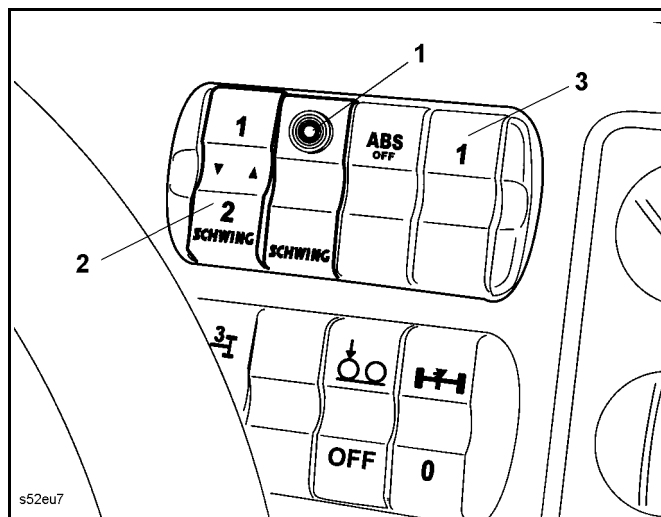
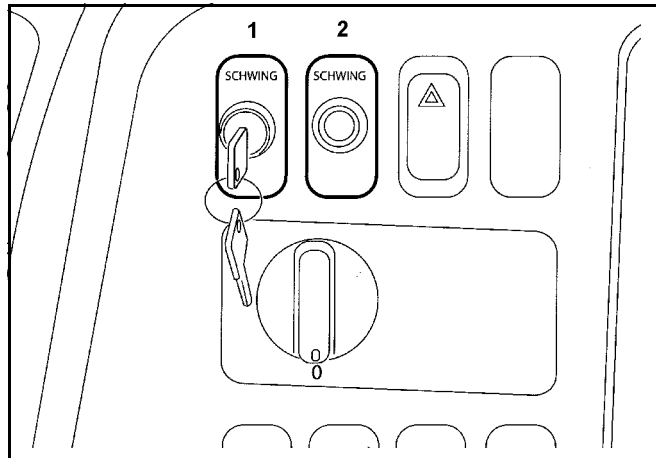

Fig. 118 Cab toggle switch
Fig. 119 Cab key-operated switch
Toggle switch (2) (**Fig. 118**) or key-operated switch (1) (**Fig. 119**).
- If necessary, switch on the support lighting, e.g., by using the toggle switch (3) (**Fig. 118**).